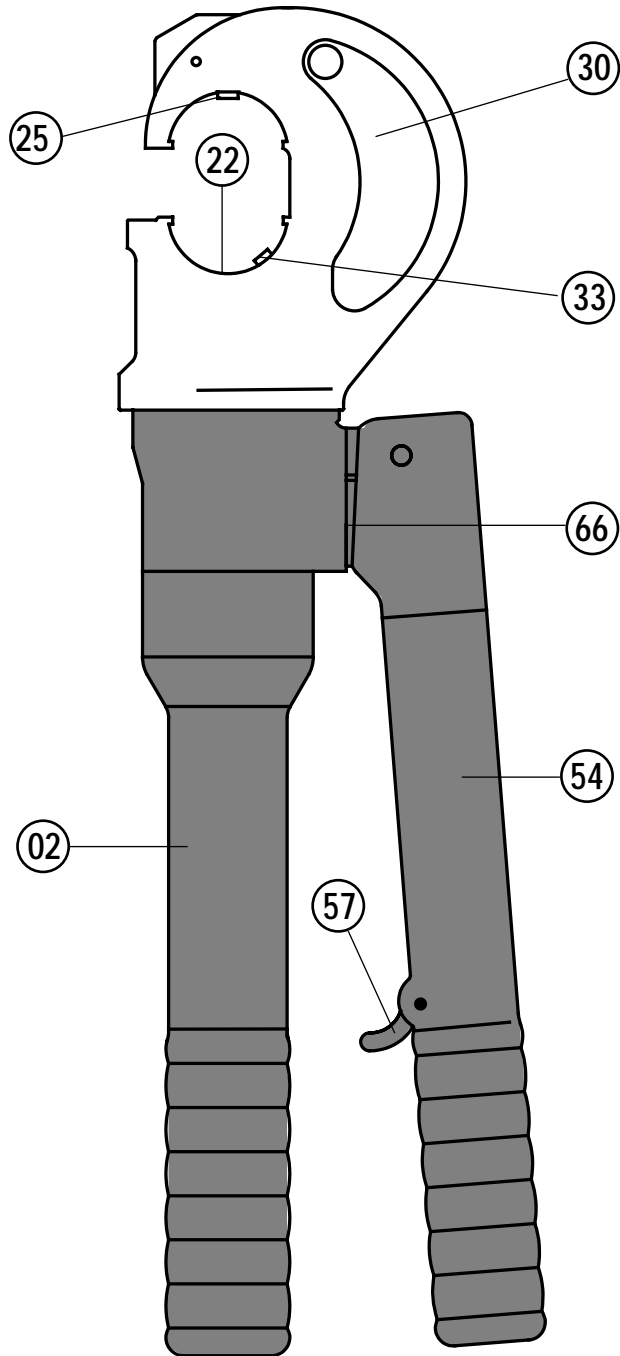

FIG. 1 OVERALL VIEW
2. INSTRUCTIONS FOR USE (Ref. to Figs. 1 and 2)
- Continue operating the moveable handle (54). The tool will automatically change over to the high pressure stage. The ram will advance until the dies meet.
2.4) Dies re-opening (See to Figs. 1 and 3)